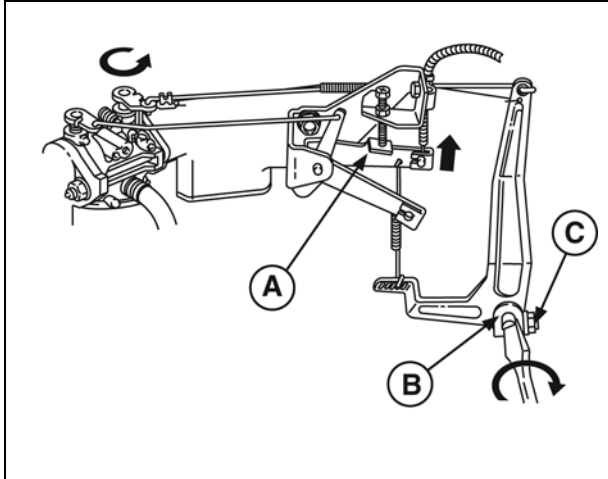

Figure 26
1. Move governor control lever (**A**, Figure 26) up to end of travel and hold in this position (throttle wide open).